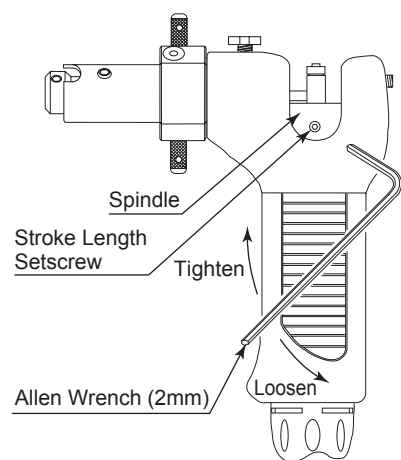

Fig. 6
- Loosen the stroke length setscrew with the allen wrench (2mm) (Fig.6).
- Tighten the stroke length setscrew with the allen wrench (2mm). (Fig. 6)